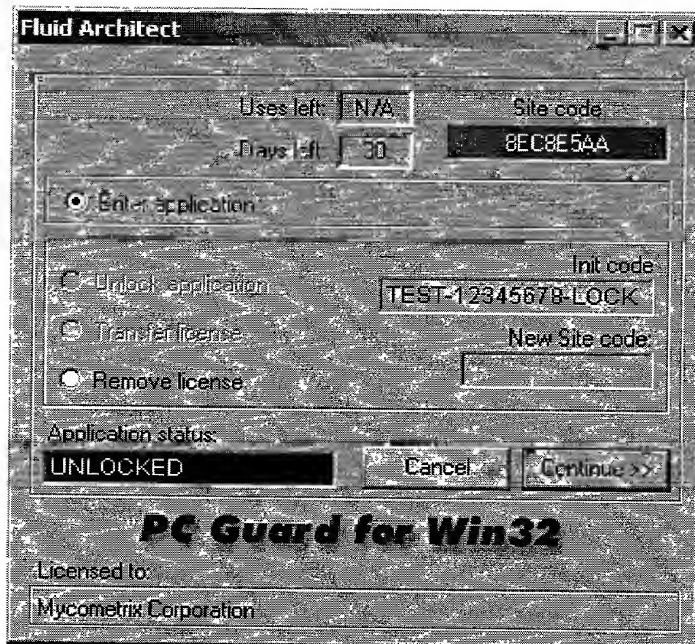

Figure 2 – Dialog to Enter the Init Code
2. Enter the 16 digit alphanumeric string EXACTLY as it is shown in the email including the “-“ character which separates the strings. See Figure 2. In this case the Init code of TEST-123455678-LOCK was entered.